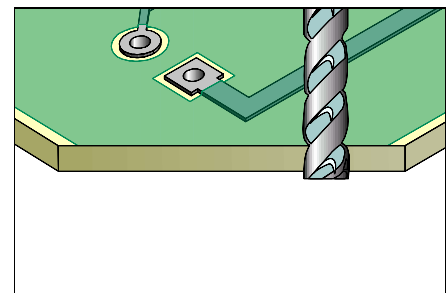

Figure 1: Cut away damaged base material with the Saw or milling cutter.
2. Cut away the damaged board material using the Saw or milling cutter. Remove all evidence of the damaged material. No fibers of laminate material should be exposed. File the edge to ensure that the edge is flat. (See Figure 1).